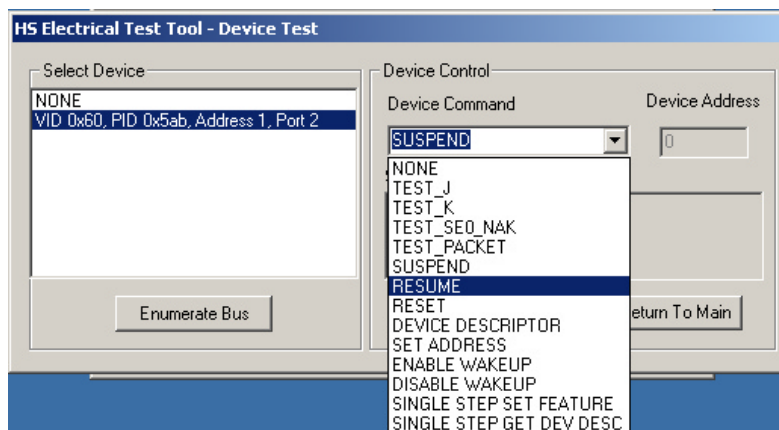

Figure 22. Device Resume
9. On the HS Electrical Test Tool - Device Test menu, select RESUME from the Device Command drop down menu (Figure 22).